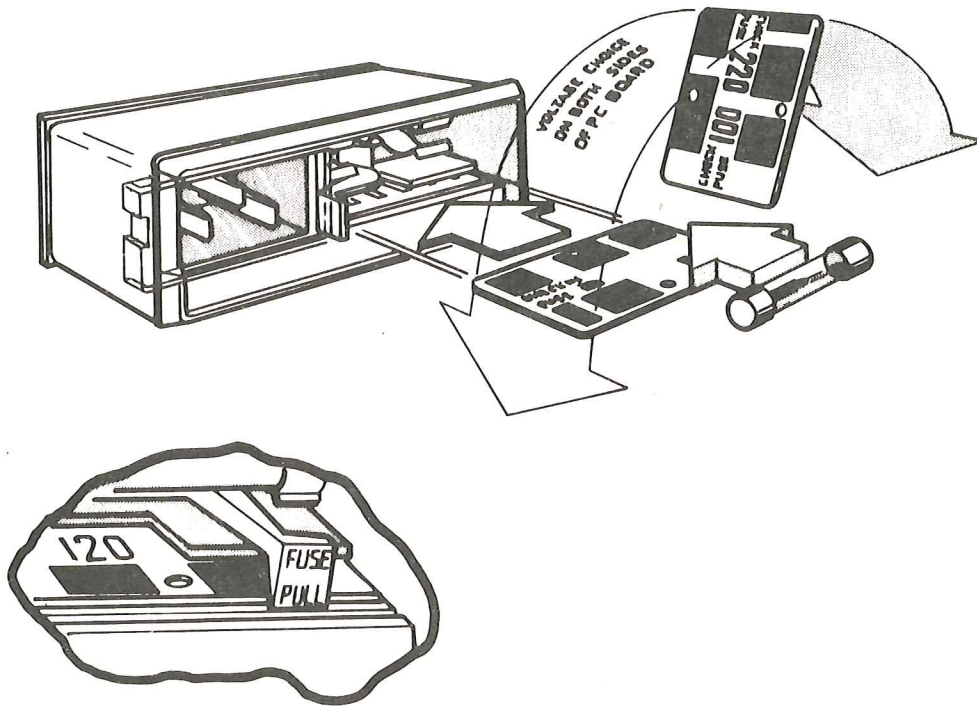

FIGURE 2-1. AC-INPUT RECEPTACLE AND FUSE ASSEMBLY
2-10. Prior to shipment from the factory, the line voltage adapter on the rear panel is set to the value appropriate for the shipping destination. However, it is good practice to check this setting prior to operating the instrument (see Figure 2-1). The correct value for the line voltage selected:
3. Remove the voltage-select card that is located directly below the fuse holder, inside the assembly. Reinsert the card such that the proper line voltage is on the upper left side of the card. (See Figure 2-1.)